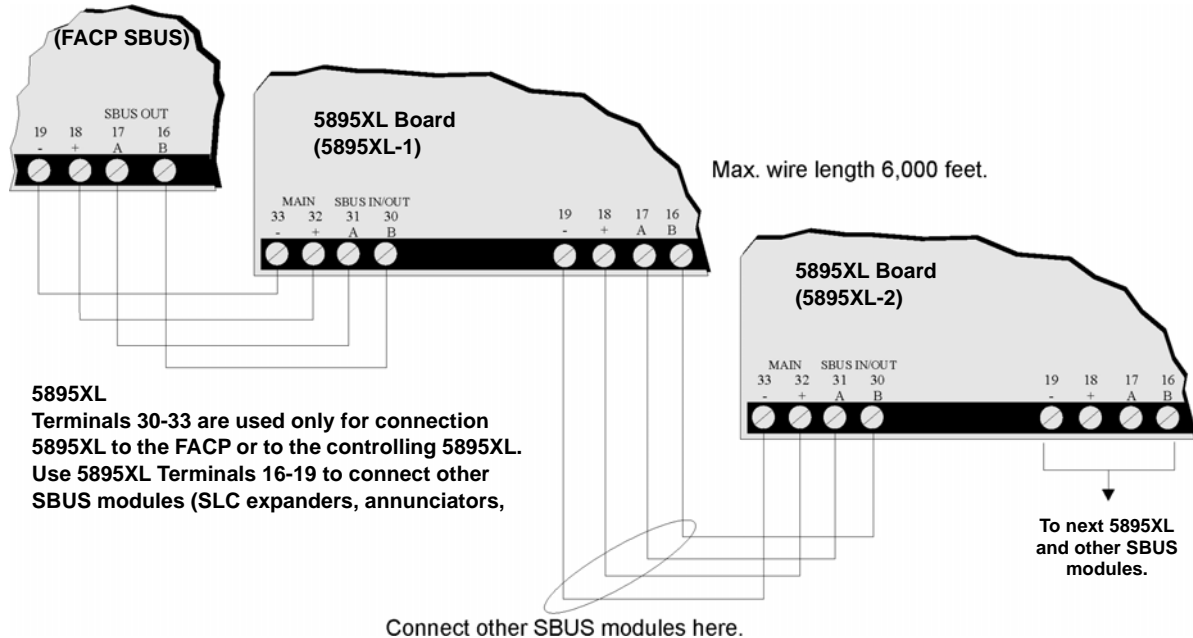

Figure 3.7 Class B 5895XL Connection to FACP
1. Connect the 5895XL to the appropriate SBUS. The 5895XL can be connected directly to the FACP or can be daisy-chained to another 5895XL. Figure 3.7 and Figure 3.8 show both connections.